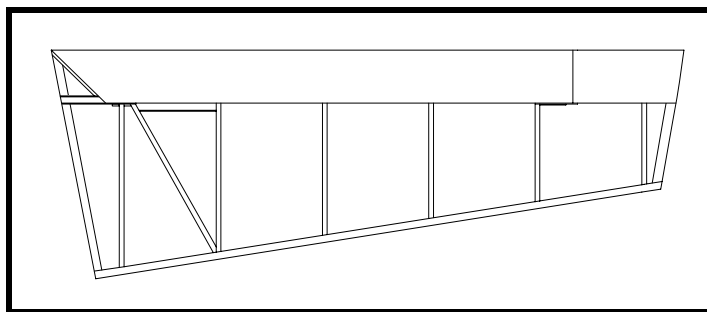

Figure 11
- ❑ Fit and bend the leading edge skin above Sta. 4-1/2. Scarf the plywood to match the scarf at Sta. 4-1/2. See Figure 11.